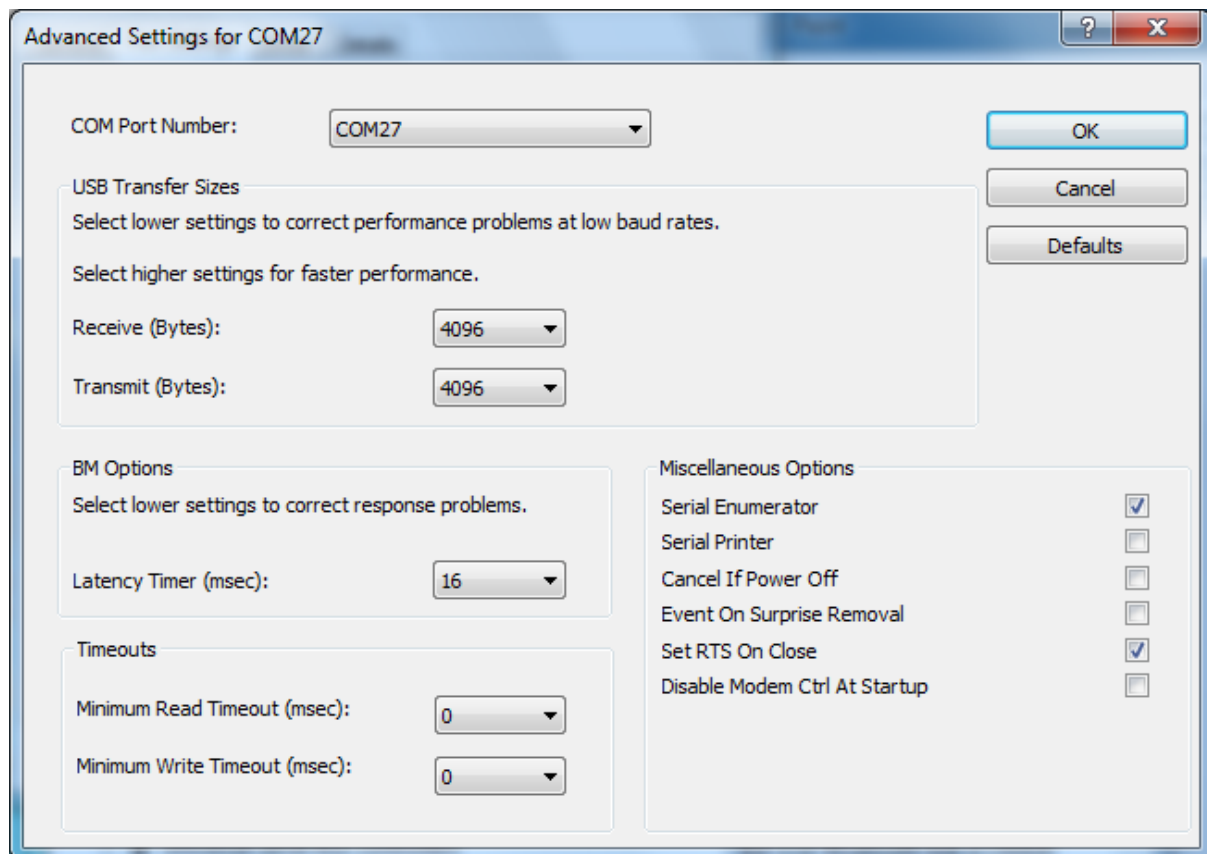

Figure 1-7 Advanced Port Settings: Select Set RTS On Close
- V. Double-click on **each** of these USB Serial Port entries and, under the *Port Settings* tab, click on *Advanced...* in the *Miscellaneous Options* at the bottom right-hand side of the window, ensure that *Set RTS On Close* is ticked, as shown in Figure 1-7.